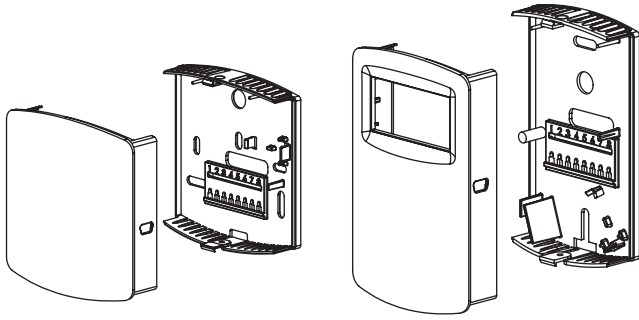
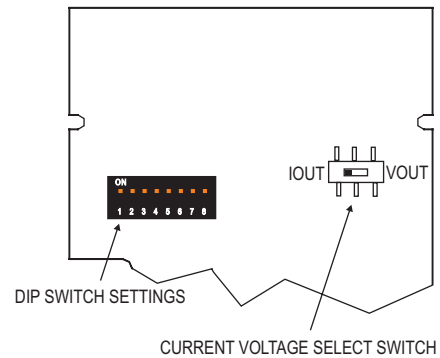

Figure 1
Figure 4
1. Push tab on top and bottom of the back plate and lift the cover from the back plate. (See Figure 1).
Prior to wiring, verify that the Current/Voltage select switch shown in Figure 4 is set to current or voltage as desired. Refer to "Setting the Current/Voltage Select Switch".
Remove the cover of the unit as shown in Figure 1. The Current/Voltage select switch is located on the back of the circuit board. Set the switch "IOUT" for current, "VOUT" for voltage.
To access the DIP SWITCH, remove the cover of the unit as shown in Figure 1. The DIP SWITCH is located on the back of the circuit board as shown in Figure 4.